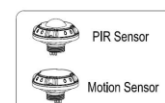

FIG. 12
- 2 Securely twist-lock the DC sensor into the base to ensure proper operation. Do not overtight. (Figure 12) . Use a commissioning device to adjust the settings as needed.